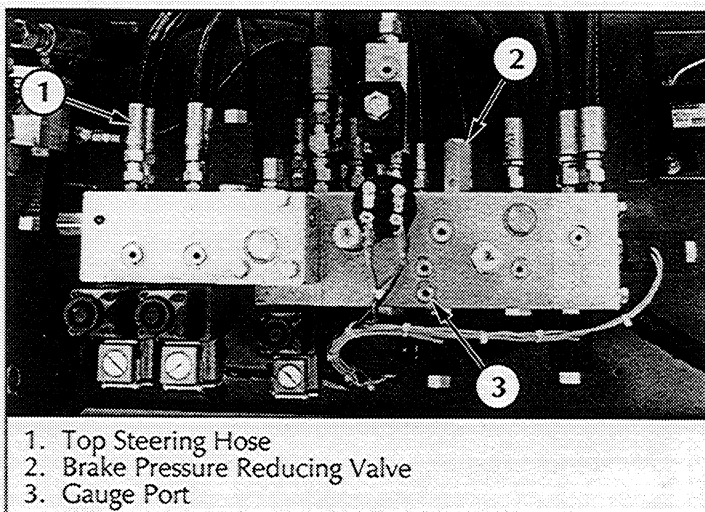

Figure 4-5: Hydraulic Manifold Assembly, Top View
2. Remove the gauge port plug (Figure 4-5) and install a 0-3000 psi (0-250 bar) pressure gauge assembly.
2. Remove the gauge port plug (Figure 4-5) and install a 0-600 psi (0-50 bar) pressure gauge assembly.
## BRAKE PRESSURE REDUCING VALVE (Figure 4-5 & 4-6)